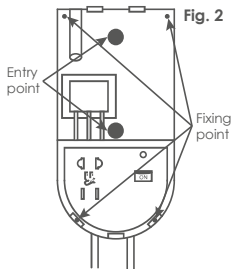

Fig. 2
2. Offer the holder to the wall and mark the wall with a pencil through the fixing points shown in Fig. 2.
2. Route the mains cord through one of the two entry points (Fig. 2) and connect to the terminals.